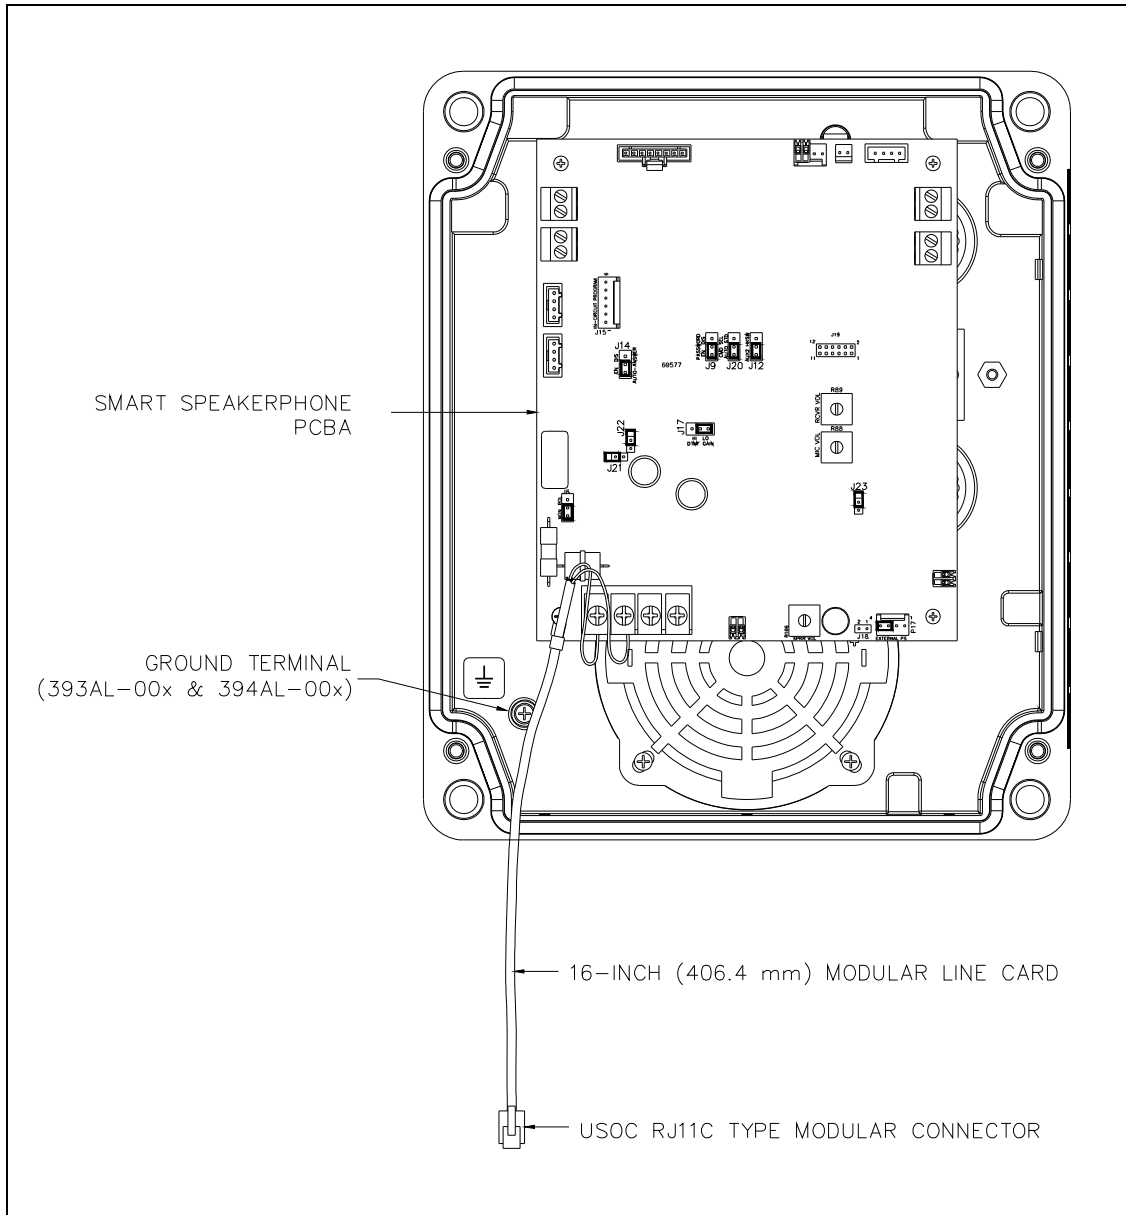

Figure 1. PCBA Connections for Models 393-00x, 393AL-00x, and 394AL-00x
1. Align the holes in the four corners of the new PCBA with the standoffs in the telephone, maintaining proper orientation. See Figure 1 on page 3.